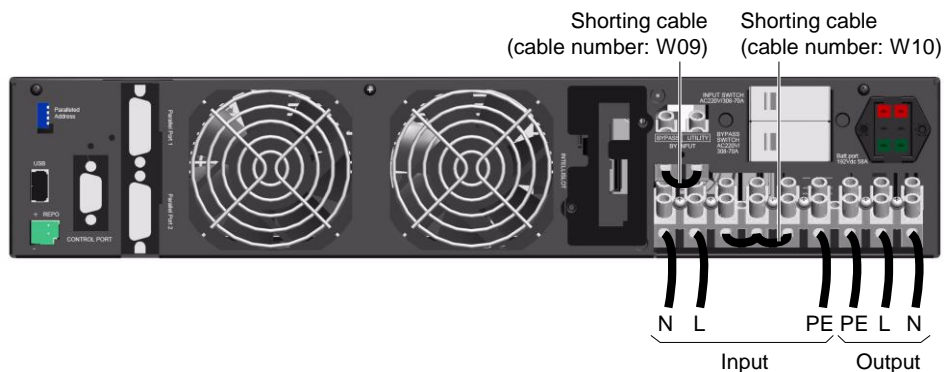
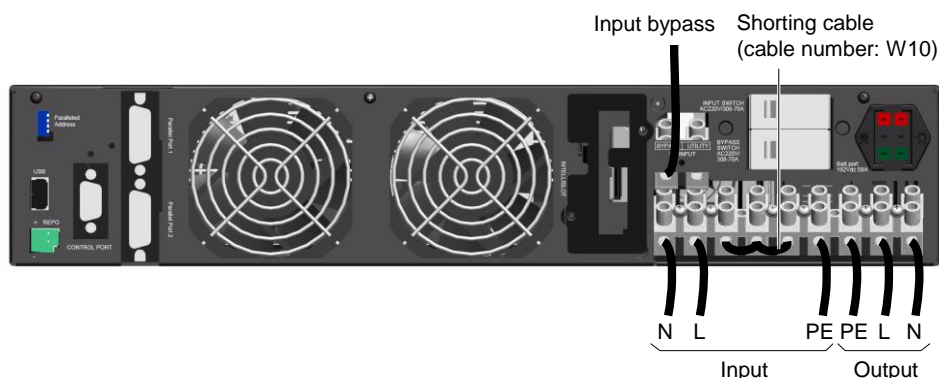

Figure 2-18 Cable connection for 1-input 1-output, common source configuration
Figure 2-19 Cable connection for 1-input 1-output, split-bypass configuration
5. Connect the main input N line, L line and PE line respectively to the input neutral line terminal (N), input live line terminal (U), input earth line terminal (PE) of the UPS I/O terminal block, and tighten the fixing screws, as shown in Figure 2-18.
6. Connect the output L line, N line and PE line respectively to the output live line terminal (L), output neutral line terminal (N) and output earth line terminal (PE) of the UPS I/O terminal block, and tighten the fixing screws, as shown in Figure 2-18.
5. Connect the main input N line, L line and PE line respectively to the input neutral line terminal (N), input live line terminal (U), input earth line terminal (PE) of the UPS I/O terminal block, and tighten the fixing screws, as shown in Figure 2-19.
6. Remove the shorting cable (cable number: W09, see Figure 2-18), connect the input bypass line to the BYPASS terminal of the bypass terminal block, and tighten the fixing screws, as shown in Figure 2-19.
7. Connect the output L line, N line and PE line respectively to the output live line terminal (L), output neutral line terminal (N) and output earth line terminal (PE) of the UPS I/O terminal block, and tighten the fixing screws, as shown in Figure 2-19.
5. Remove the shorting cable (cable number: W10, see Figure 2-19) from the UPS I/O terminal block.
4. Remove the shorting cable (cable number: W10, see Figure 2-19) from the UPS I/O terminal block.